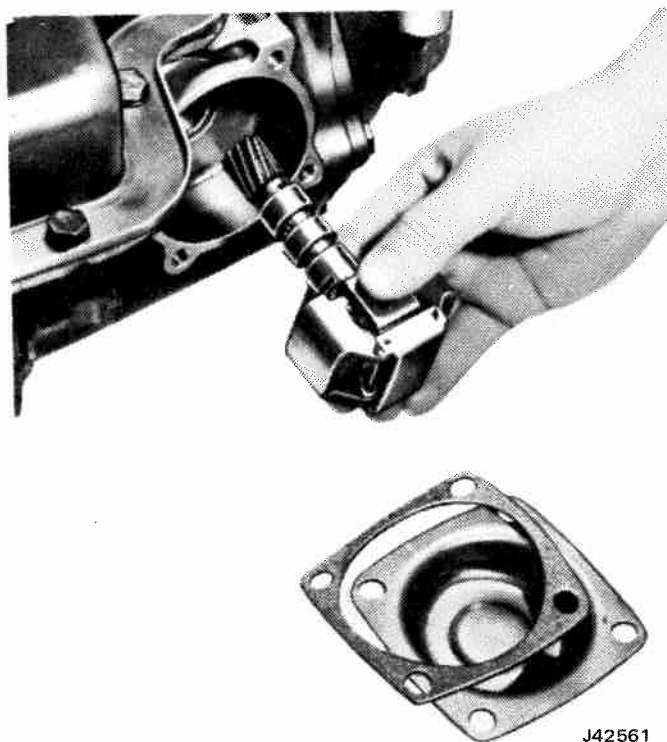

Fig. 7-131 Installing Governor Assembly
(1) Insert sleeve of governor assembly into transmission case, so that driven gear of governor meshes with drive gear in case (fig. 7-131).